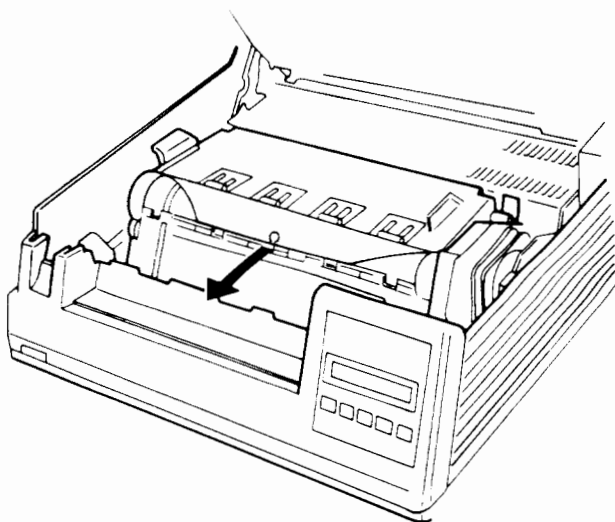

Figure 2-7 Removing the protective sheets
- f. The drum is protected by two clear plastic sheets that must now be removed. Simply pull on them one at a time to remove them. The first sheet has a finger hole for easy gripping (see Figure 2-7); the second sheet may require a firm tug to remove it completely.